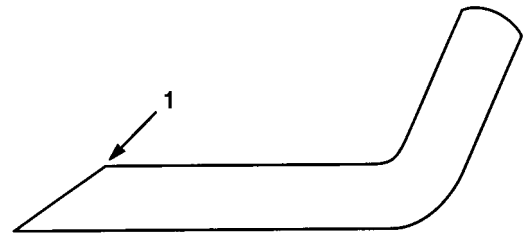

Figure 18
3. Inspect the cutting edges of all blades. Sharpen the cutting edges if they are dull or nicked. Sharpen only the top of the cutting edge and maintain the original cutting angle to make sure of sharpness (Fig. 18). The blade will remain balanced if the same amount of metal is removed from both cutting edges.